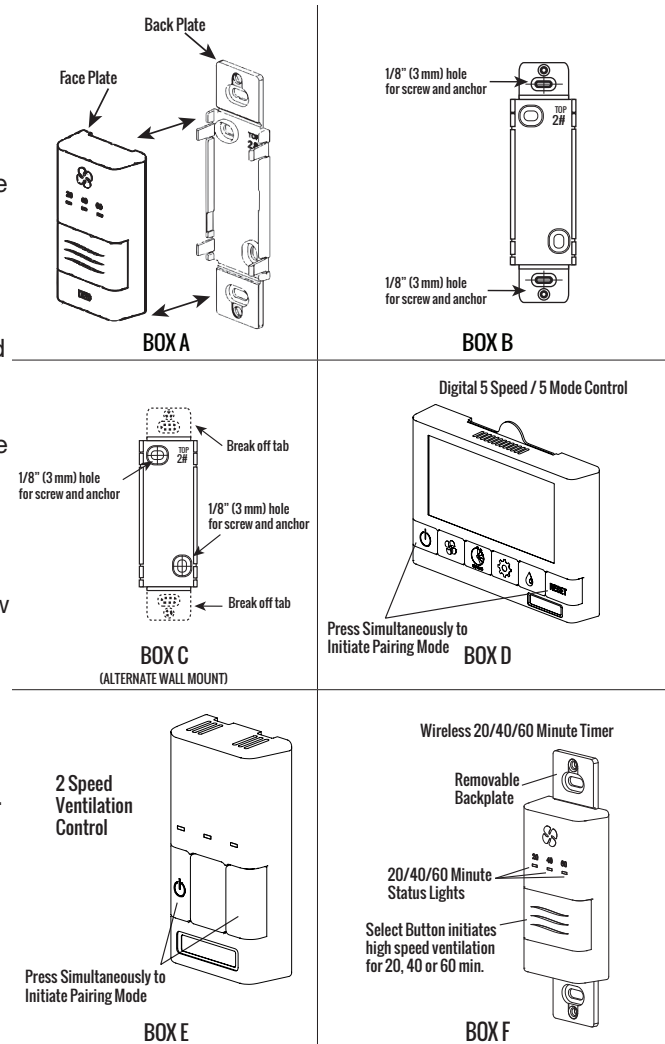

Figure 25. Installation of Timer
2. Pairing with GDXPL02 or GDXPL03 Deluxe Control: Press the left and right buttons simultaneously on the control  and RESET buttons. The screen will go blank and the wireless symbol  appear flashing on the bottom right of the display. This indicates that the control is now in pairing mode (Figure 25, Box D).
3. Pairing with GBC02, GBC03, or GBC04 Basic Controls: Press the left and right buttons simultaneously on the control buttons. The bottom row of three LEDs will begin flashing. This indicates that the main control is now in pairing mode (Figure 25, Box E).
1. Separate the face plate from the back plate by firmly pulling apart (Figure 25, Box A).
2. For mounting the control without a decorative plate, break off top and bottom tabs and refer to Figure 25, Box C for mounting.
3. Place the back plate of the control in the desired location on the wall and pencil mark the top and bottom screw holes (Figure 25, Boxes B or C). Drill two 1/8" (3 mm) holes.
5. Attach the face plate to the back plate (Figure 25, Box F).